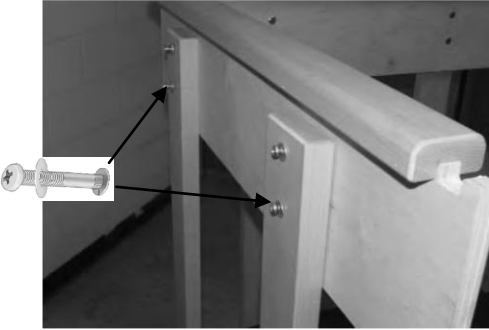

Figure 8: Straight Handrails attached
9. Attach the straight handrails 'E' over the Base 'A' on the inside part of the uprights so that Barrel bolts on the handrails should be facing inwards using Pan Head/Philips screw 'R' with Flat washer 'U' as shown in Figures 8 & 7. At this point loosely fit the handrail on the uprights.